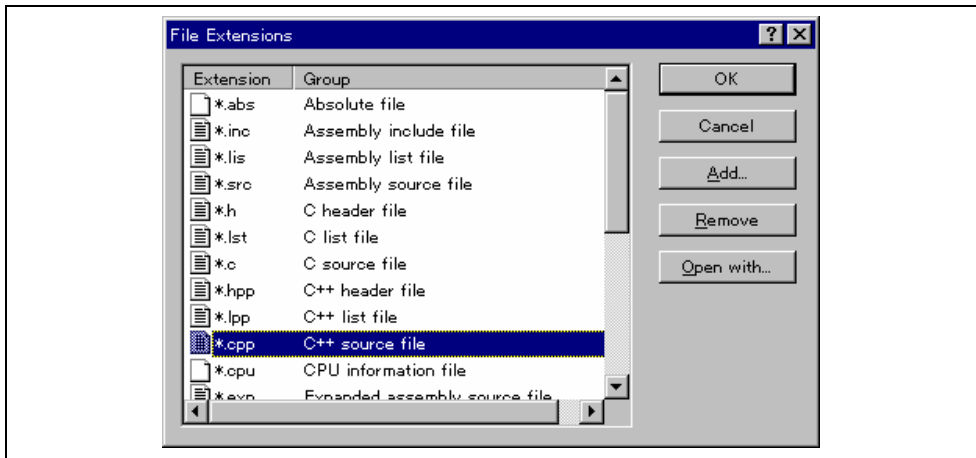
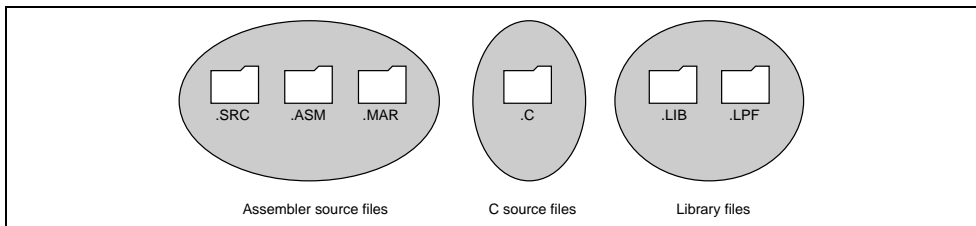

Figure 2.7: File Extensions Dialog
Figure 2.8: File Extensions and Groups
File extensions and file groups can be viewed and modified via the “File Extensions” dialog (figure 2.7). This is invoked by selecting [**Project->File Extensions...**]. This dialog displays all of the extensions and file groups, which are defined within the current workspace.
The “File Extensions” list shown in figure 2.7 is divided into two columns. On the left are the file extensions themselves, whilst on the right are the file groups. Many file extensions can belong to the same group. For example, assembler source files may have several extensions in a single project (e.g. .src, .asm, .mar etc) as shown in figure 2.8.
1. Select **[Project->File Extensions...]** from the menu bar. The “File Extensions” dialog will be displayed (figure 2.7).
1. Select [**Project->File Extensions...**] from the menu bar. The “File Extensions” dialog will be displayed (figure 2.7).